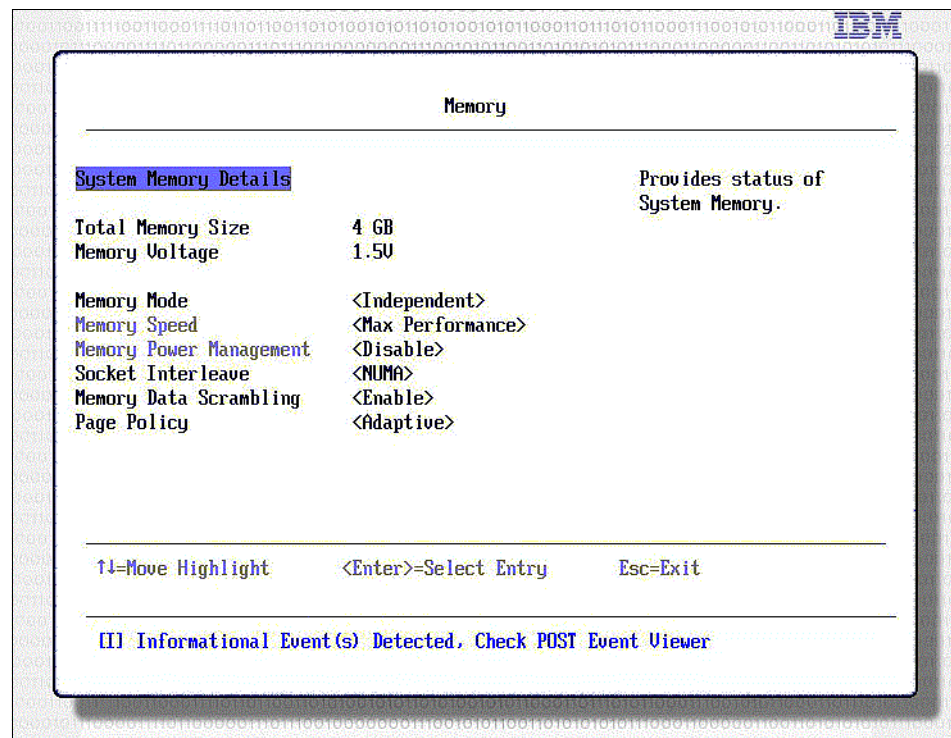

Figure 7-14 UEFI Memory system settings panel
2. After the login window opens, enter the user name and password, as shown in Figure 7-14. The default user ID is USERID and default password is PASSWORD (where the 0 in the password is the zero character and not an uppercase letter o.)